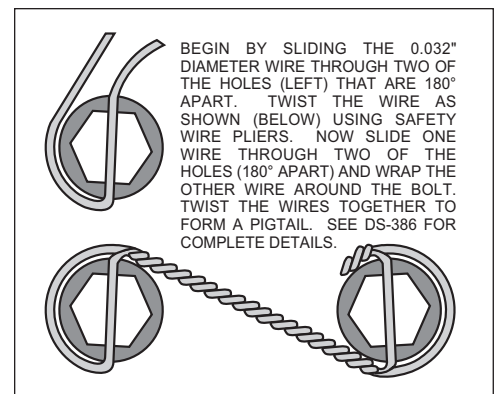

Figure 4. Safety Wire Diagram
- Apply red *Loctite*® 271 to bolt threads (3) before assembly of the caliper mounting bracket (1). Mount bracket (1) to dust face plate of spindle using washers (2) and bolts (3). Torque bolts (3) to 22 ft-lb. **NOTE:** Be sure the heads of the bracket (1) insert nuts are facing outward toward the wheel.
- Install wheel studs (4) into the hub (5). Torque to 77 ft-lb.
- Pack the large inner bearing cone (6) with high temperature disc brake bearing grease (available from your local auto parts store) and install into the backside of the hub (5). Install the grease seal (7) by pressing into the backside of the hub (5).
- Pack the small outer bearing cone (8) with high temperature disc brake bearing grease and install into front of hub (5). Slide the hub with outer bearing cone (8) onto the spindle. Secure using stock washer, adjusting nut and nut locking device. Adjust bearings per Original Equipment Manufacturer (OEM) specifications.
- Install the dust cap (10) onto the hub (5). Friction created by the o-ring (9) on the dust cap (10) keeps it from unscrewing. The O.D. of the existing spindle washer may be larger than the I.D. of the dust cap (10) not allowing it to seat against the hub face. Some grinding on the washer O.D. may be necessary to clear the I.D. of the dust cap (10).
- With the larger I.D. side of the rotor (11) facing away from the hat (12), bolt rotor (11) to hat (12) using washers (13) and bolts (14). Torque bolts (14) to 85 **in-lb**. Safety wire bolts (14) using standard 0.032 inch diameter stainless steel safety wire as shown in Figure 4. Please refer to Wilwood's data sheet DS-386 (available at www.wilwood.com/pdf/ds386.pdf) for complete safety wire installation instructions.
- NOTE:** Please reference the caution statement at the beginning of the assembly instructions. With the bleed screws pointing up, mount the caliper (16) onto the caliper bracket (1) with the flat washers (17), lock washers (18), bolts (19) and caliper spacer (15) positioned between caliper and bracket. Finger tighten. View the rotor (11) through the top opening of the caliper (16). The rotor (11) should be aligned in the center of the caliper (16). If not, adjust the caliper (16) by using 0.032 inch thick shims (20) placed between the caliper spacer (15) and the caliper (16). Finger tighten and recheck alignment. Apply red *Loctite*® 271 to bolt threads (19) and torque to 47 ft-lb. Safety wire caliper bolts (19).
- Remove the bridge bolt from the caliper (16) and install the disc brake pads (21). Reinstall the caliper bridge bolt.